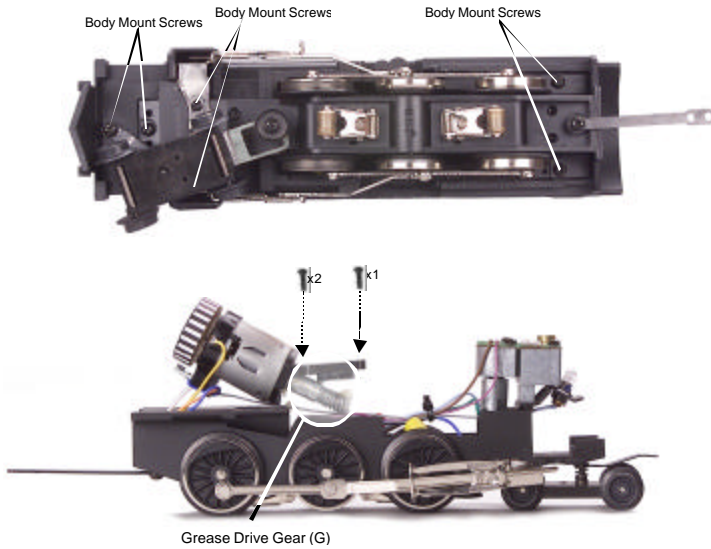

Figure 11. Locations of Body Mount Screws and Diagram for Greasing the Drive Gear
1. Unscrew the chassis screws as shown in Fig. 11 and remove the boiler.
If you experience poor or no smoke output when the smoke unit is on and has fluid, check the wick to see if it has become hard, blackened, and unabsorbent around the heating element. Remove the boiler shell (Fig. 11 pg. 15) then the smoke unit inspection cover from the smoke unit's body (see Fig. 12). After removing the chassis and inspection cover screws, lift the inspection plate away and inspect the wick. If it is darkly discolored and hard, it should be replaced.